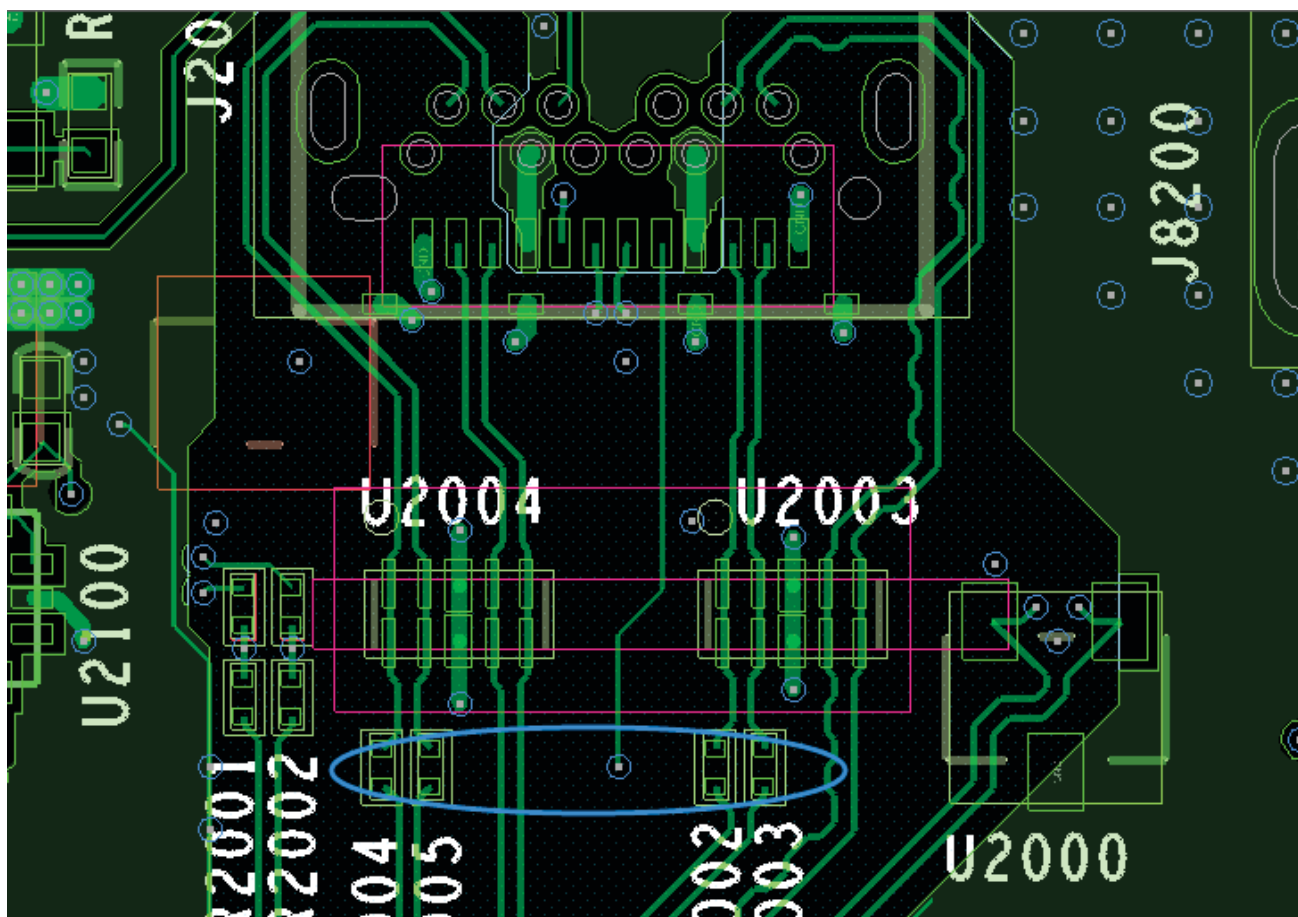

Figure 4-29 USB TX Coupling Capacitors Place Requirements 1
- In order to suppress EMI, the USB signal trace is recommended to be placed inner layer and ensure the reference plane is continuous and complete, otherwise, it will cause discontinuities in the traces impedance and increase the external noise on them. If the differential pairs group is routed on the surface layer, it should be shielded by GND traces; there is no need the GND shield traces between the differential pairs. Shown as Figure 4-29.